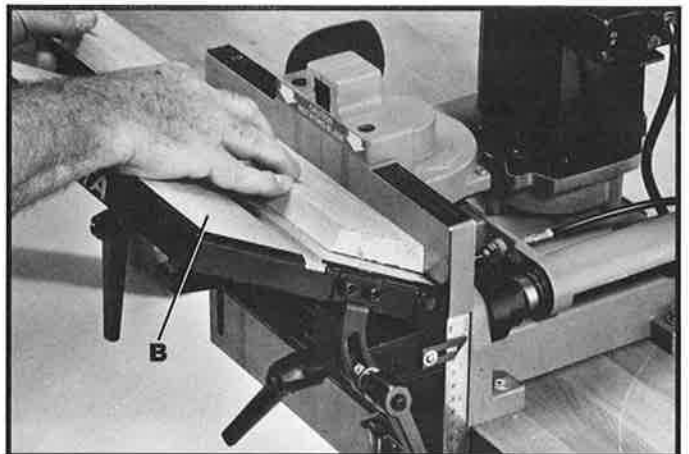

Fig. 37
2. Adjust the angle of the tilting table (B) to match the angle of the workpiece, as shown in Fig. 37. Adjust the height of the table to position biscuit slot at proper location in beveled surface. Line up one of the points marked in **STEP 1**, with the center line of the cutter, and cut the first biscuit slot, as shown. Cut biscuit slots at the remaining three positions that were marked in **STEP 1**.